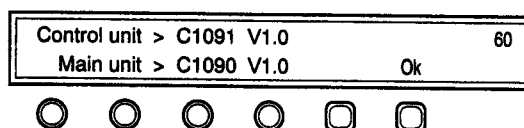

Fig. 5-26 Software version display
- The software versions indicated in Fig. 5-26 are only examples and may be different from those of the actual units.
(3) Error messages